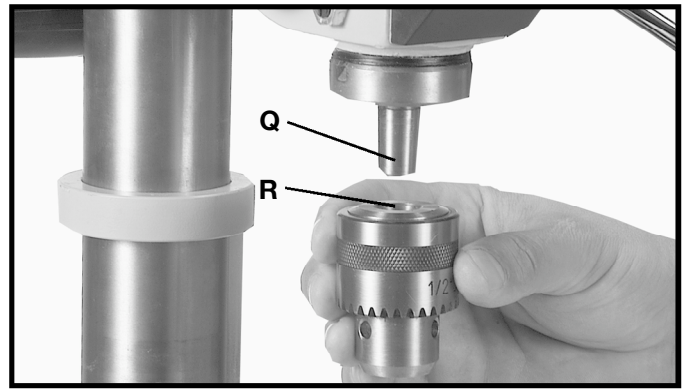

Fig. 15
10. **IMPORTANT:** Make certain the spindle taper (Q) Fig. 15, and tapered hole in chuck (R) are clean and free of any grease, lacquer or rust preventive coatings.